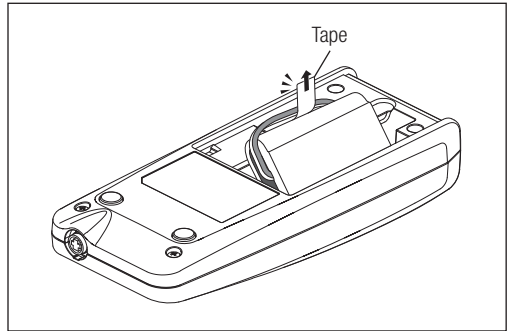

Fig. 7
- 4) By pulling out the tape attached to the battery pack, take out the existing battery pack. (Fig. 7)